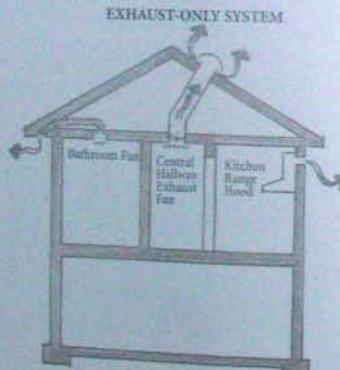

Figure 8
- **Exhaust-only systems** use a fan to pull air out of one room (e.g., a bathroom fan) or several rooms (e.g., a centralized exhaust fan with ducting to several rooms). Makeup air from outside comes through the small-cracks and gaps that exist even after air sealing (see figure 8). The fan should be outfitted with a programmable timer and run on a regular schedule. Exhaust-only systems are easy and inexpensive to install, but if placed inappropriately, they may draw in makeup air